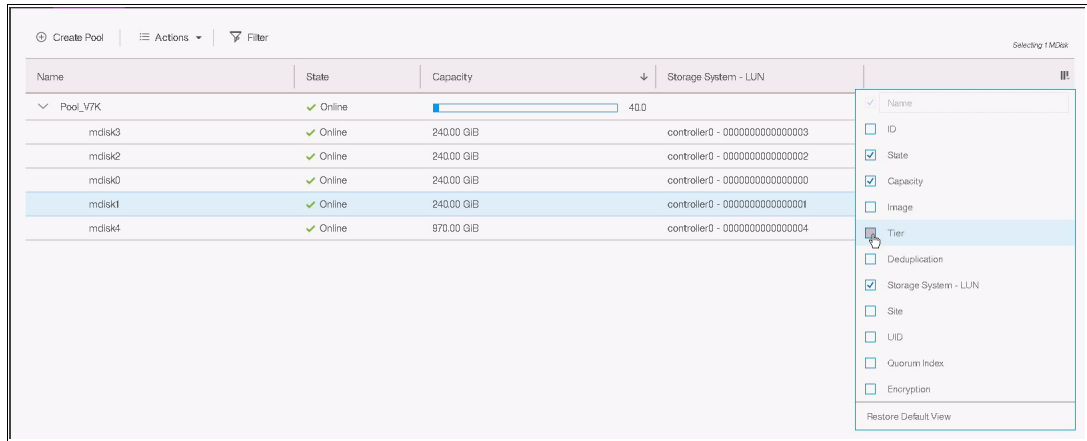

Figure 4-29 Customizing the title row to show the tier column
- If you do not see the *Tier* column, right-click the blue title row and select the **Tier** check box, as shown in Figure 4-29.